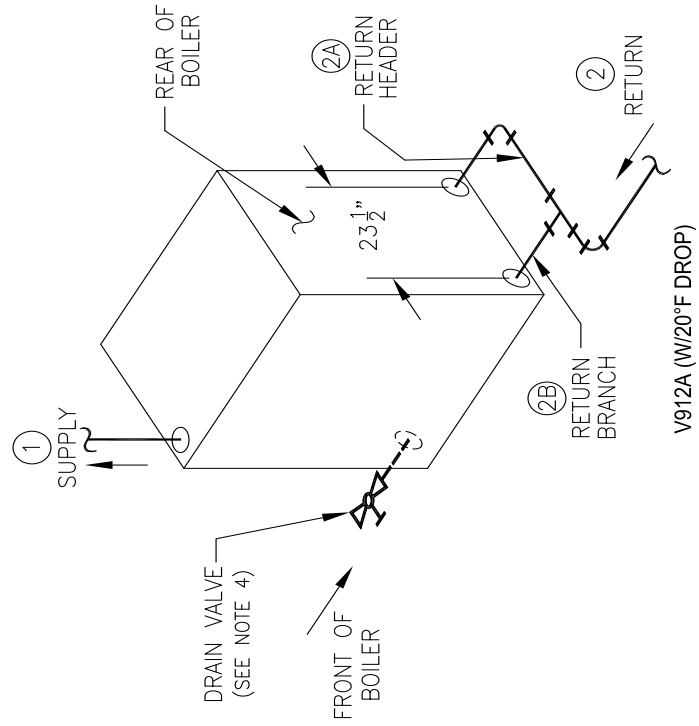

Figure 26: V9A Series Minimum Piping - Parallel - Water Boiler
6. Install required bottom blowoff/drain valve (supplied by others) per minimum piping requirements for water boilers, see Figure 26.
2. **SUPPLY CONNECTIONS** - Removal of top jacket is not required to connect the supply riser(s), however one may find it easier. Refer to Figure 26 or 27 for water boilers and Figure 32 for steam boilers.
3. **RETURN CONNECTIONS** - The boiler is secured to the shipping skid with U bolts and 3" shipping nipples. Remove the bolts and nipples. Using 3" plugs and an appropriate pipe sealant, plug the unused return connections according to the minimum piping recommendations. Refer to Figure 26 or 27 for water boilers and Figure 32 for steam boilers.
Connect supply and return piping to heating system (see Figures 26 through 32). Flow direction for hot water boilers must be from the rear return out through the top front supply. Steam boilers can pipe return to the front as an alternate location. Some boiler sizes may require the use of additional supply and return tappings. Check Figure 24 and applicable piping diagram for the boiler size you are installing.
- i. If minimum return water temperature can be maintained at 135°F and temperature differential across the system is at 40°F or less, refer to Figure 26 or 27 for recommended minimum boiler piping details.